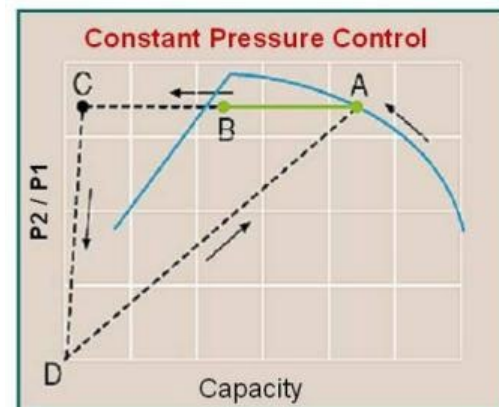

Fig. 2
### Constant Pressure Control with Modulating Unloading Regulation (UV) (See Figure 2)
- At the minimum throttle point (B), the position of the IBV/IGV is maintained as fixed, and the unloading valve (UV) starts to modulate open.
- Some controls can also provide for a maximum unloading valve (UV) position to be programmed. This allows the owner to minimize inefficient operation during periods of low demand by limiting unloading operation to a point between (B→C).